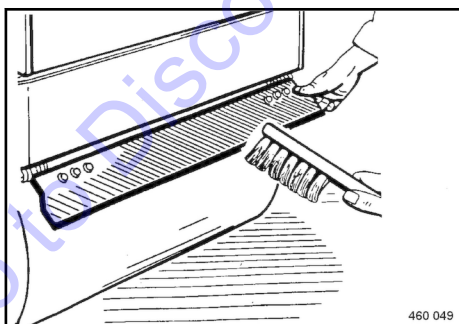

Fig. 267
- Fold the scrapers up and clean them ↪ Fig. 267. This is of particular importance before compacting asphalt surfaces.